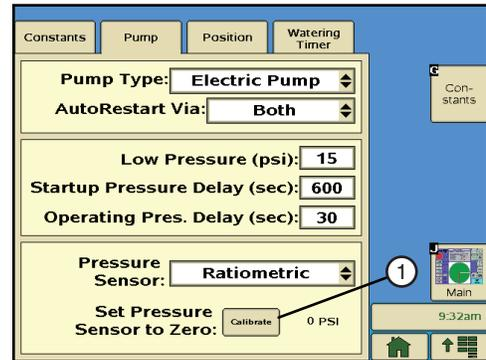

Figure 38-1 1. Calibrate Button
- (a) Select the **Pressure Sensor** field and choose the type of pressure sensor from the drop-down list. See Figure 38-1.
- (b) With the pump OFF and the machine dry, push the **Calibrate** button on the Pump screen to set the water pressure sensor to the current water pressure of zero. See Figure 38-1.